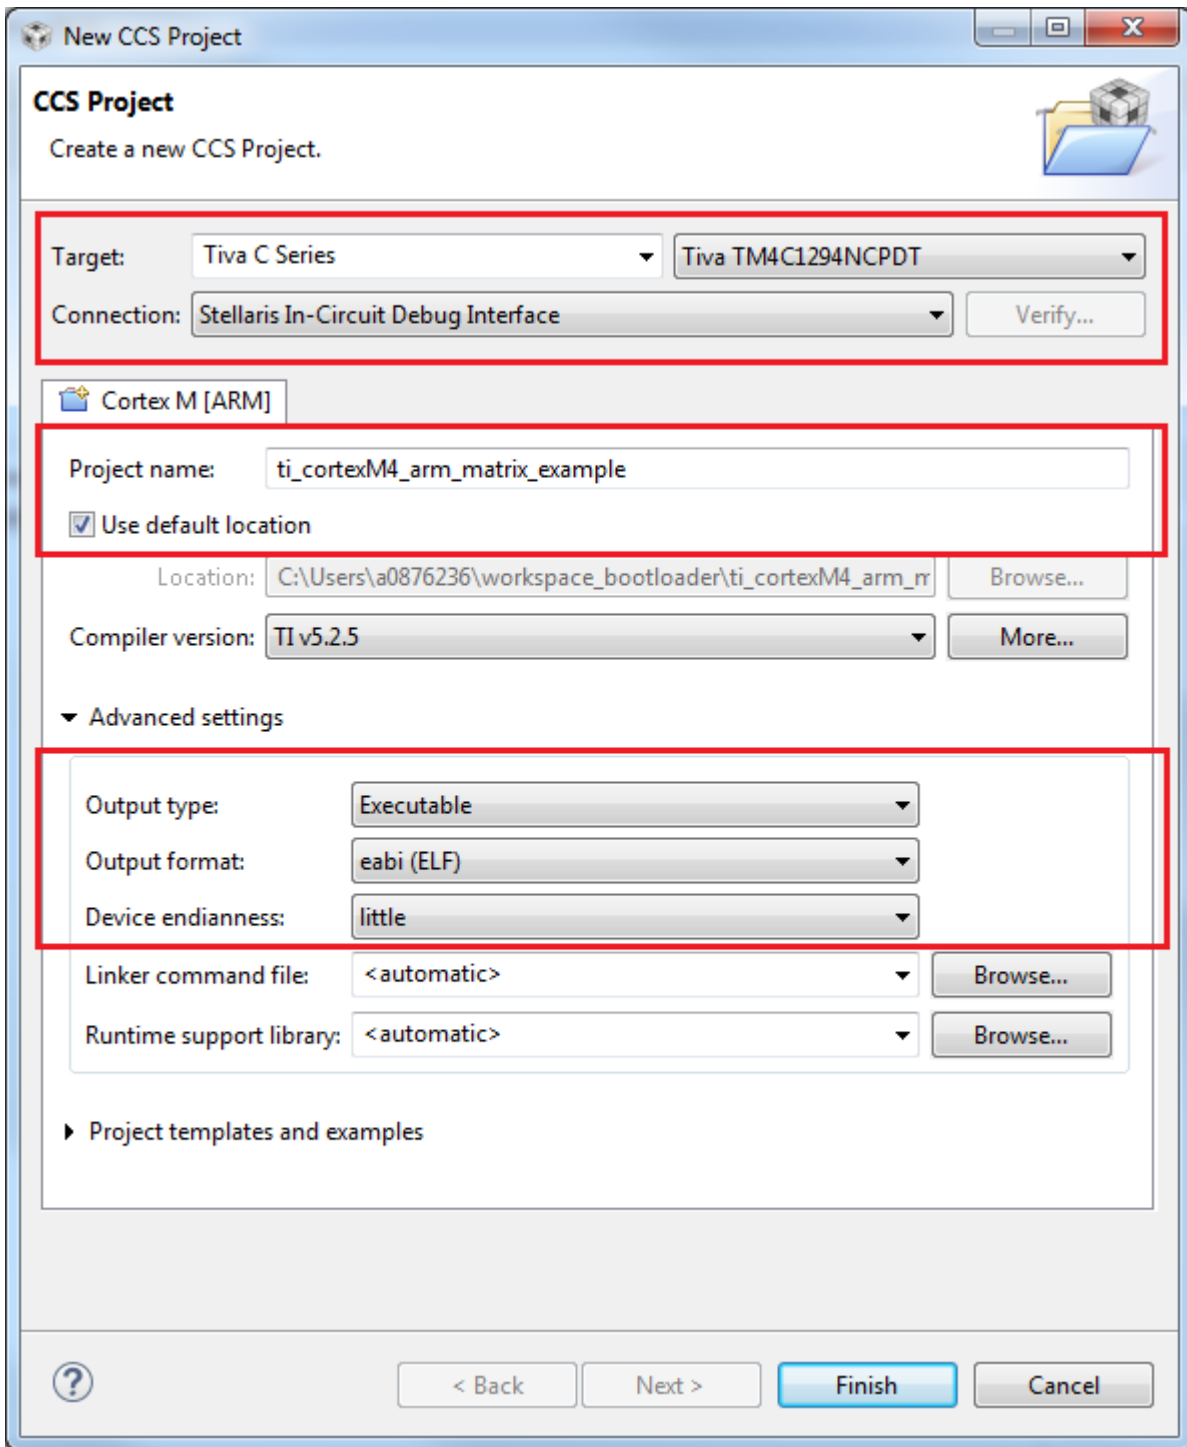
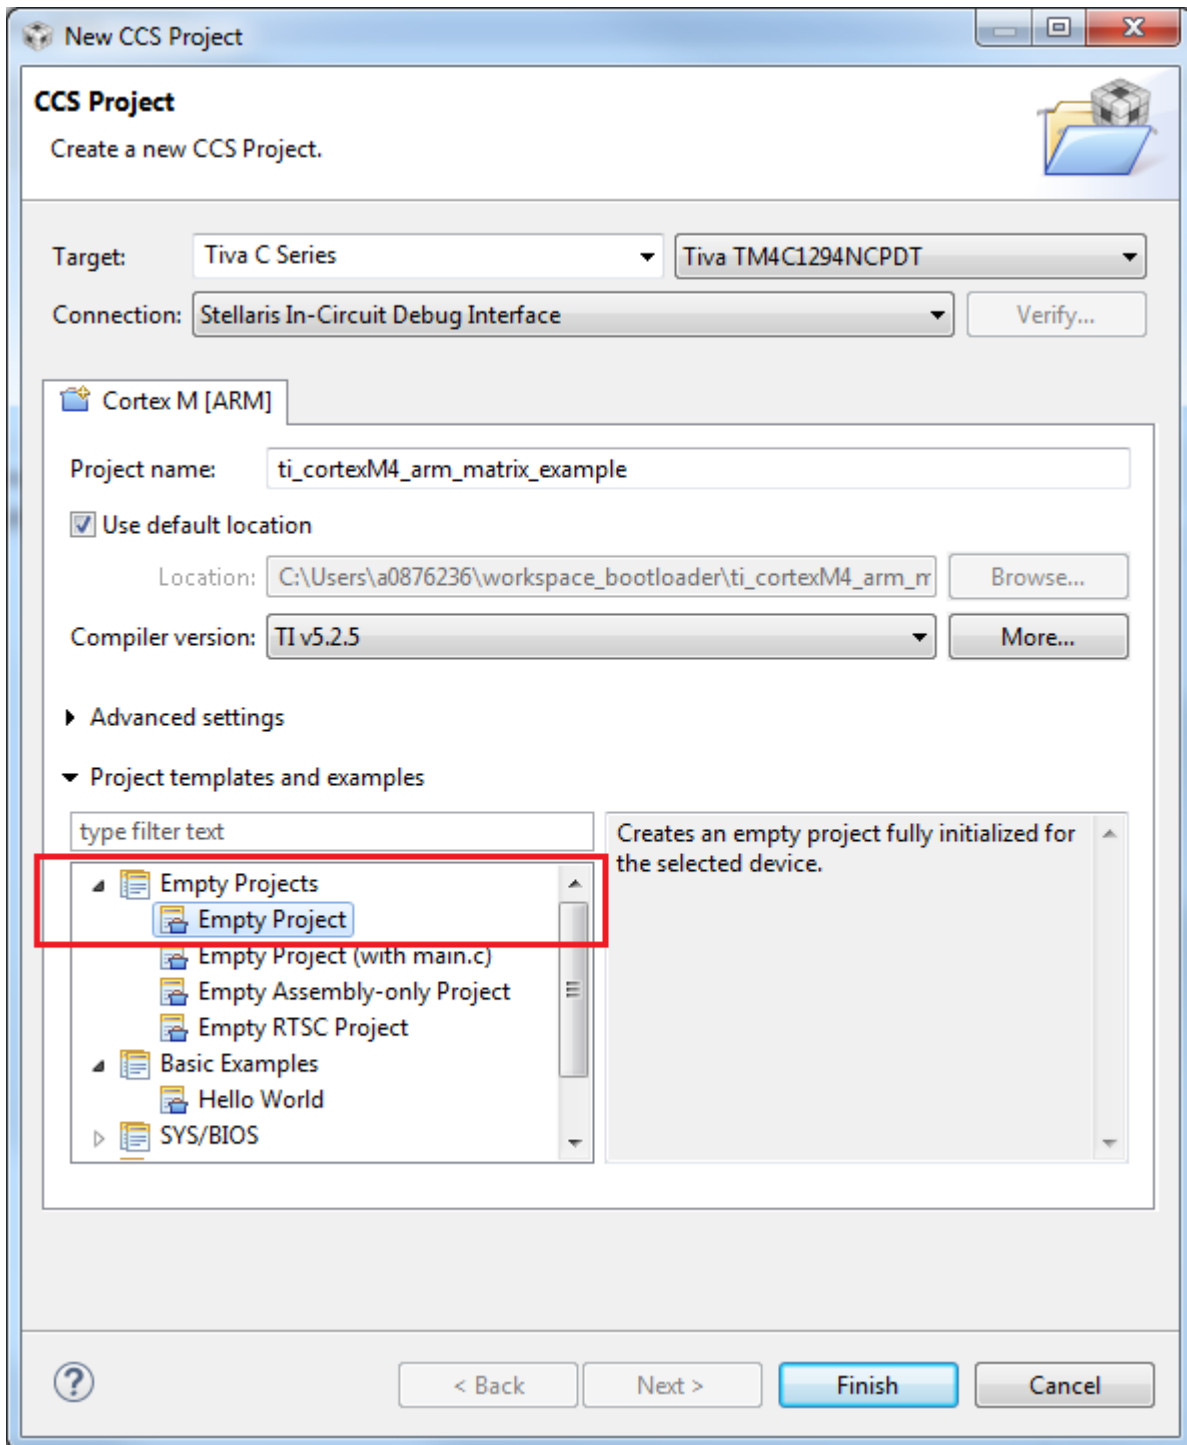

Figure 12. The New CCS Project Window With Options Set to Build the arm\_dotproduct\_example Project
Figure 13. The New CCS Project Window With Options Set to Build the arm\_dotproduct\_example Project
7. Click **Finish** to create the project (see Figure 12 and Figure 13). The project now appears in the Project Explorer.